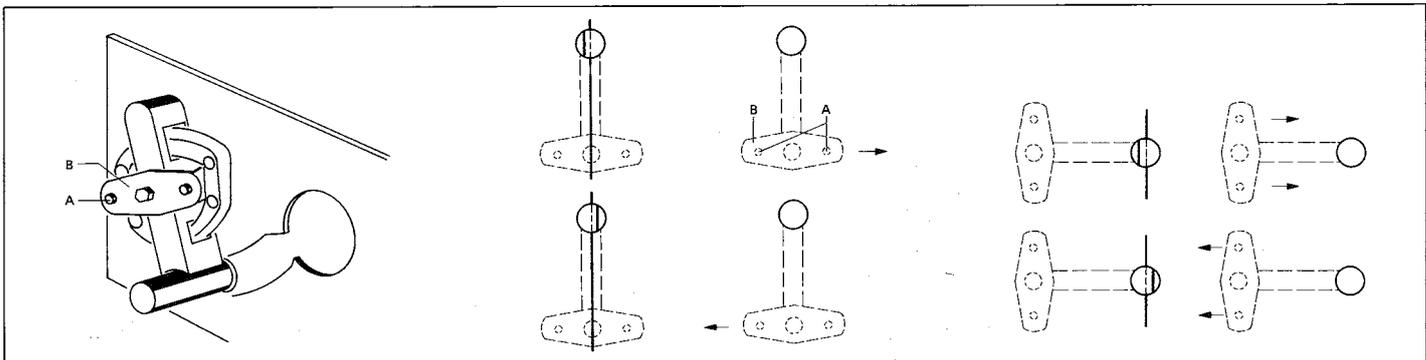

Fig. 4.13
-> Fig. 4.13
- Loosen the 2 screws [A] so that the bearing plate [B] can be shifted. (Fig. 4.13)
- Correct the position of the bearing plate according to Fig. 4.13.